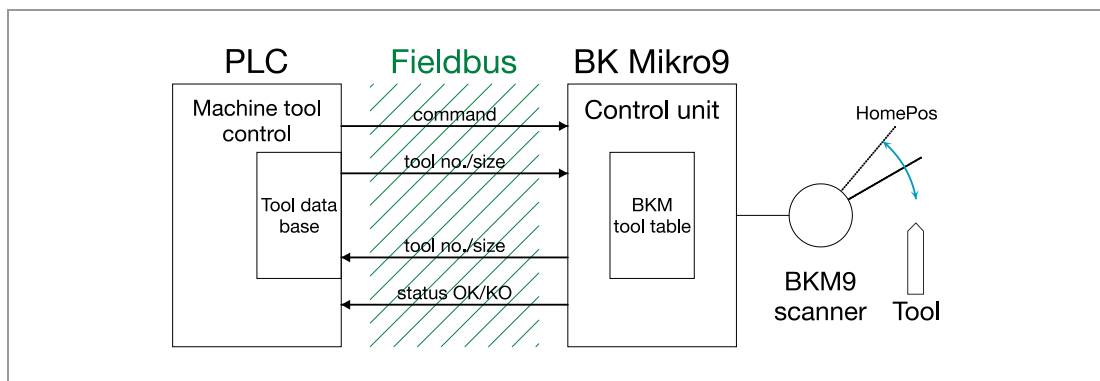

Fig. 1-2: Function sequence
- Fig. 1-2: Function sequence5